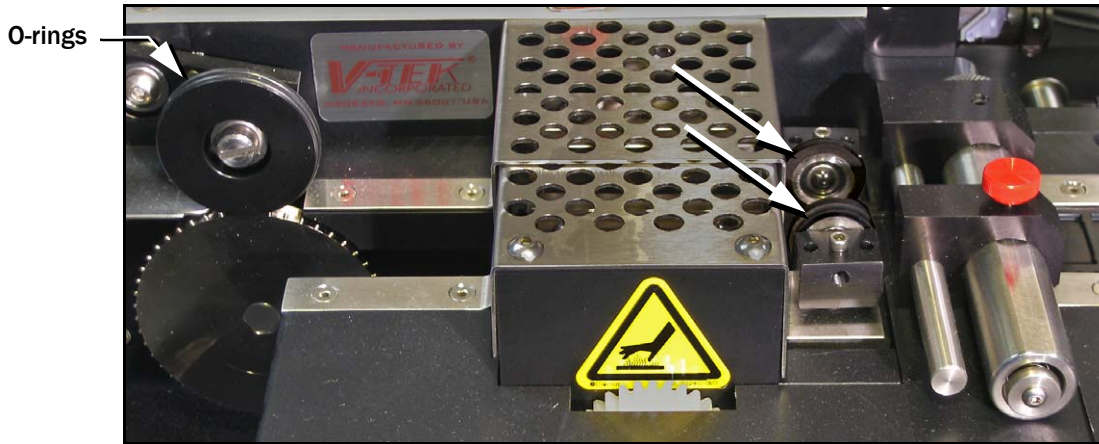

Figure 4-31: On the Tape Out Module, the PSA Seal Rollers (arrows) and Sprocket Idler with O-rings.
9. Inspect the PSA seal rollers for build up of grime from the cover tape. See *Figure 4-31*.
11. Inspect the drive sprocket top idler and rubber O-rings for any build up from the cover tape. See *Figure 4-31*.